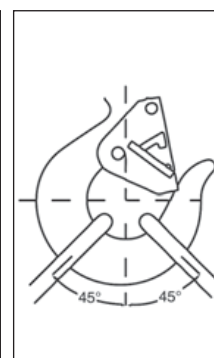

Figure 5
- When placing two (2) sling legs in hook, make sure the angle from the vertical to the outermost leg is not greater than 45°, and the included angle between the legs does not exceed 90°* (See Figure 5).
* For angles greater than 90°, or more than two (2) legs, a master link or bolt type anchor shackle should be used to attach the legs of the sling to the hook.